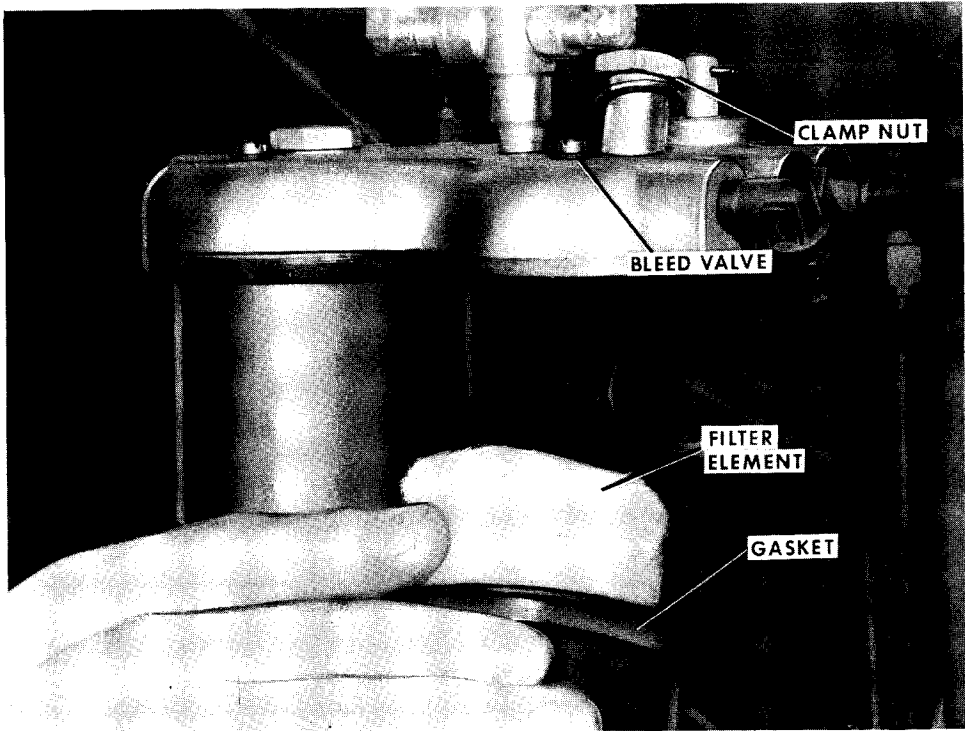

Figure 68
3. Loosen the filter clamp nut, Figure 68, until the entire filter body assembly can be lowered away from the top cover.